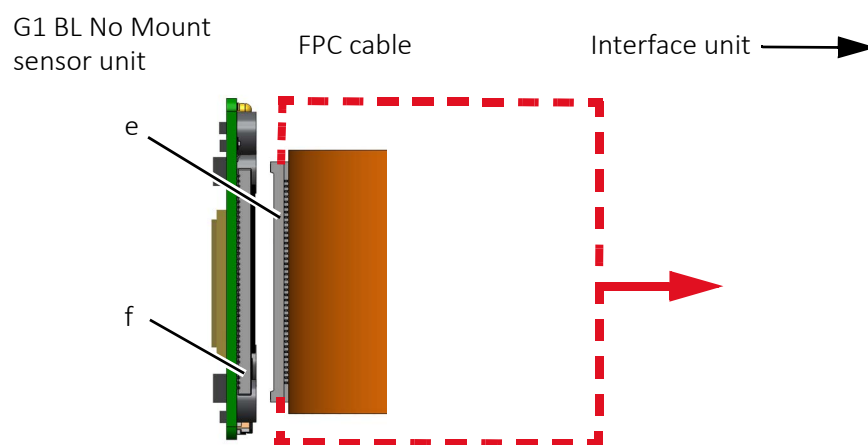

Figure 64: Disconnecting the interface unit from the sensor unit
- Disconnect the FPC cable **only** on the sensor unit side as shown in Figure 64.
2. With 2 fingers grabbing the cable side FPC connector (e) at the edges, disconnect the FPC cable from the FPC connector (f) of the sensor unit as shown in Figure 64.